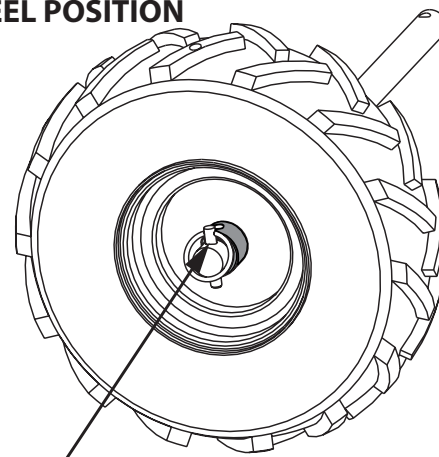

FIGURE 2 WHEEL LINCHPIN IN FREE-WHEEL POSITION (LINCHPIN IN AXLE HOLE ONLY)
- a. Attach loose wheels in box onto machine with wheel lock pins in free-wheel position. Slide wheel all the way onto the axle and insert linchpin through the axle hole only. **SEE FIGURE 2**